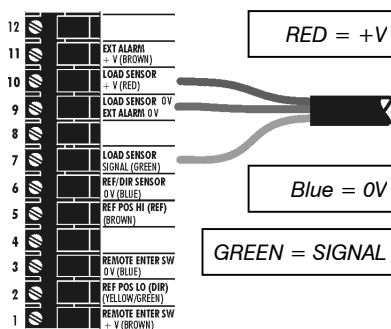

Figure 7
- Connect the wires according to the label on the junction box lid (fig. 7) :